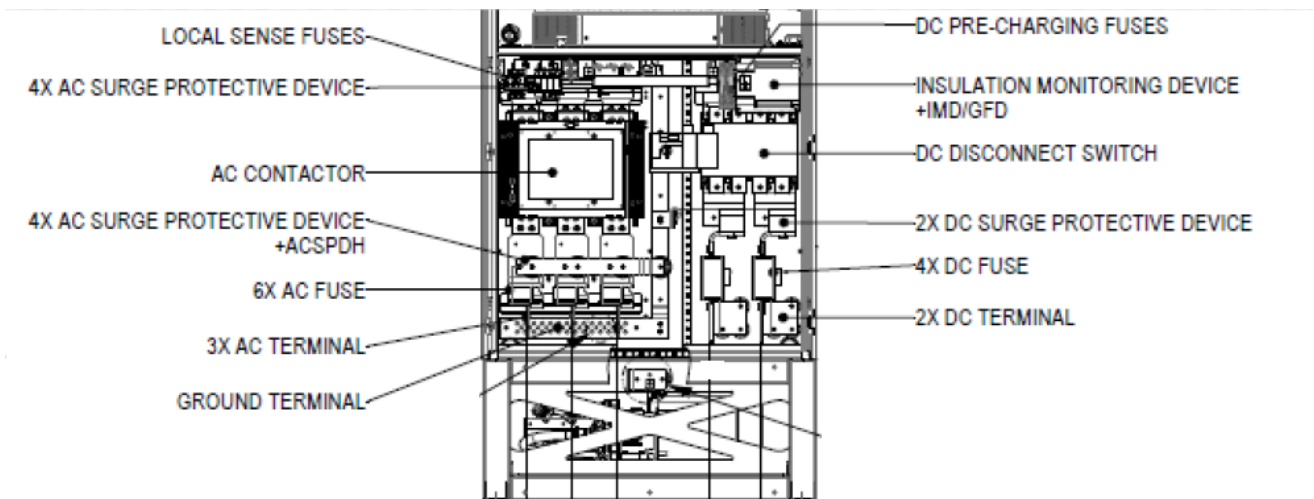

Figure 2: Voltage Measurement location for verification during LOTO process in AC cable entry version
1. Disconnect or turn off and lock out **all sources of power** (refer to figure 2 below) such as: